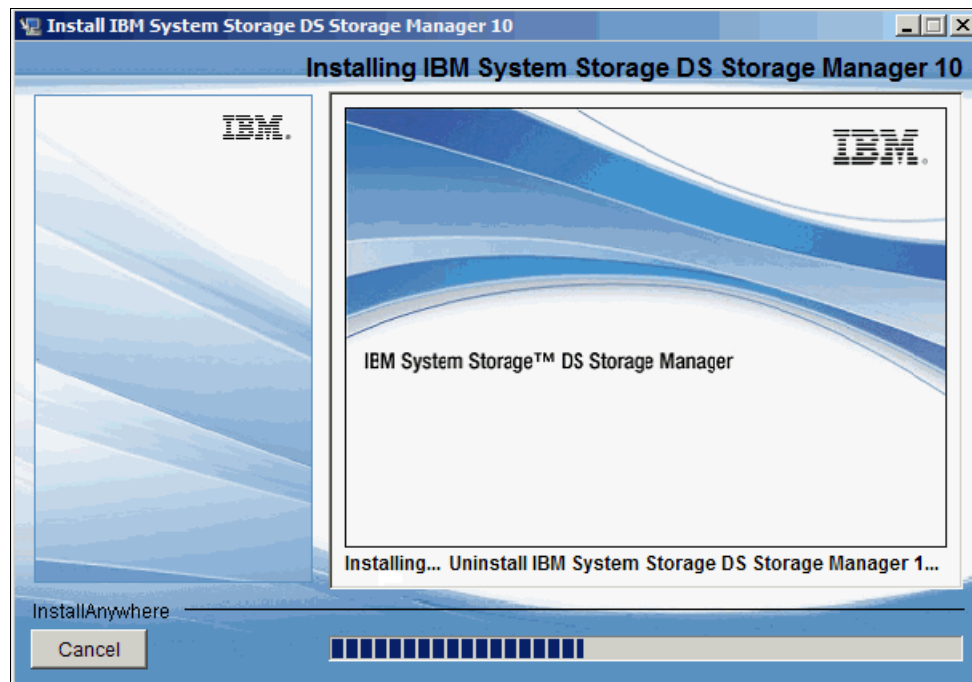

Figure 5-12 IBM DS Storage Manager Installation status window
12. The installation status window will appear during the installation as shown in Figure 5-12.